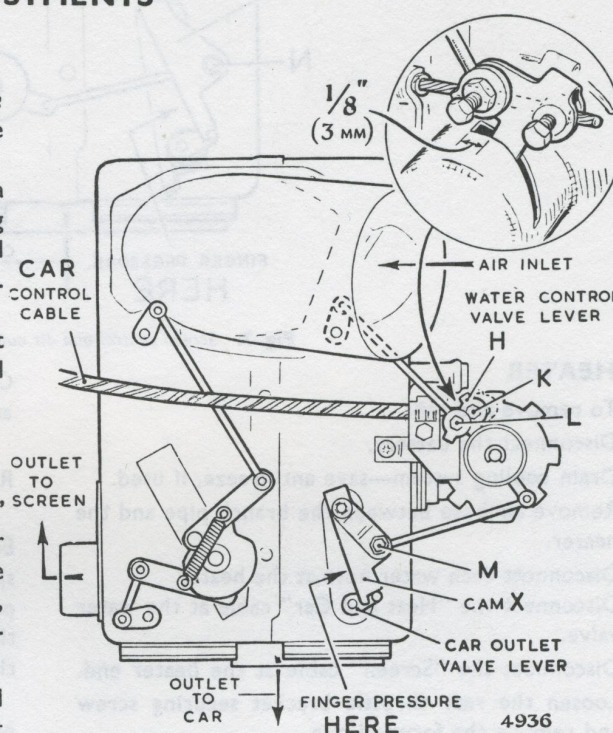

Fig. 6. Car control, water valve, air mixing valve and air outlet valve adjustment details
These valves are controlled by interconnected rods, cams and levers actuated by the dashboard "Car" and "Screen" controls which are connected by means of flexible cables to the water control valve lever (H) and the flap-valve (J) Figs. 6 and 7 respectively.
1. "CAR" Control (See Fig. 6)
- The water valve lever is interconnected with the air mixing valve and the air outlet valve. When the water valve lever is fully anti-clockwise the air mixing valve should be at rest in the horizontal position; to check this slacken screw (L) (this will allow the valve to drop should it be out of position) and now retighten screw (L).
- If the air outlet valve is not fully closed, move the "Car" lever away from the "off" position until the water valve lever (H) is at the "DE-ICE" position.
$\frac{1}{8}$ " is (3.2 mm.) from the end of its slot (as shown in Fig. 6).